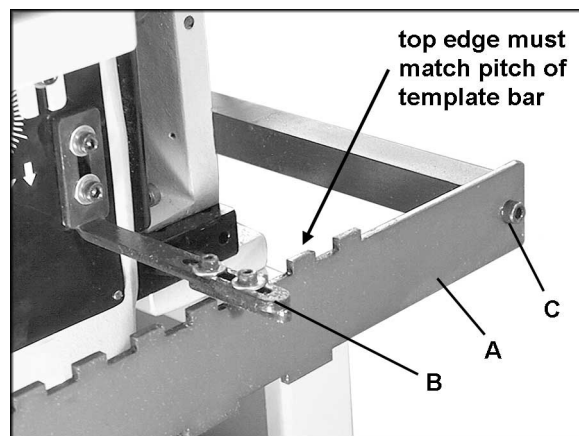

Figure 16
You must now also shift the indication template (Figure 16). See "Indication Template".
Because the tracer pin is not easily observed while the machine is in operation, the indication template (A, Figure 16) provides the operator with a visual record of the progress of the "hidden" tracer pin. The bracket (B, Figure 16) slides in and out of the notches on the indication template, echoing the tracer pin as it slides in and out of the notches on the template bar below.
2. Remove the socket head cap screw (C, Figure 16) at each end of the indication template, with a 5mm hex wrench.
4. Re-insert and tighten the socket head cap screws (C, Figure 16).